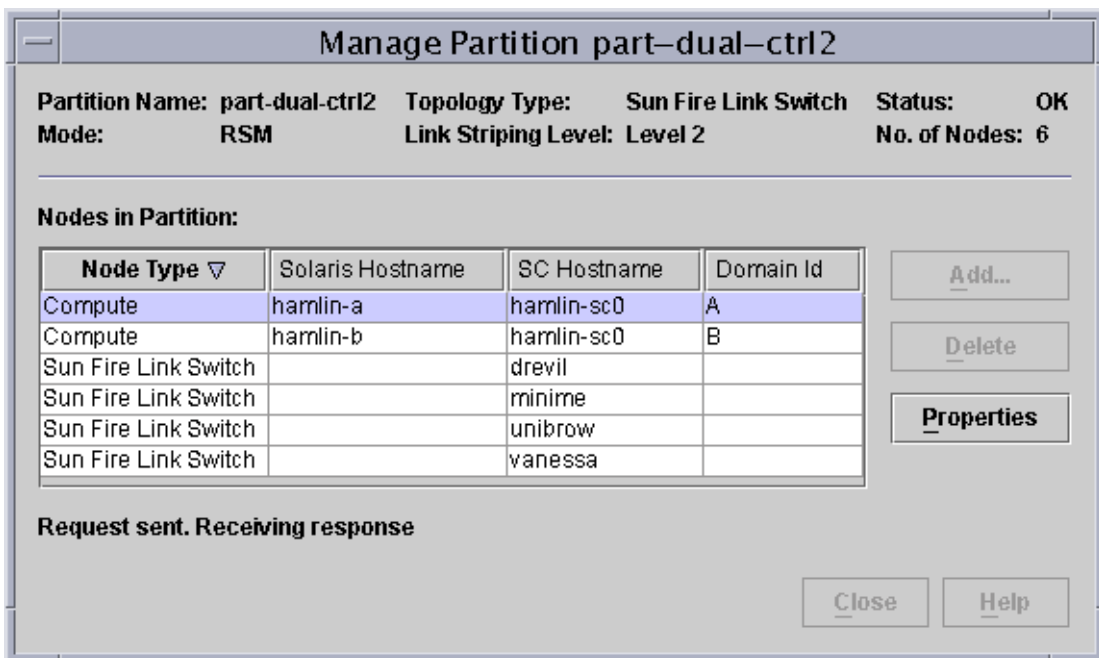

FIGURE 7-1 Manage Partition Dialog Box With List of Nodes in Selected Partition
4. In the Manage Partition dialog box, select the nodes and switches you want to delete. See FIGURE 7-1.